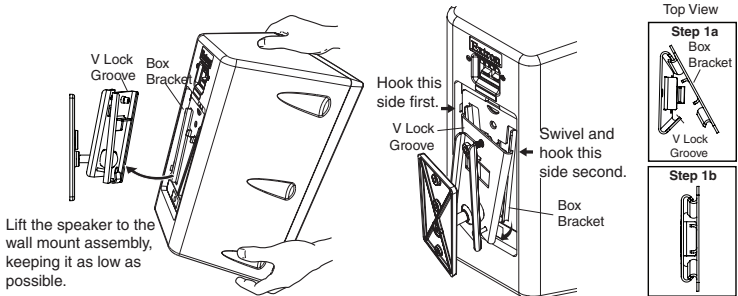

Figure 6 — Hook the speaker over the edges of the V-lock groove on the wall mount assembly
- 1a. Carefully lift the speaker up as close to the bottom of the wall mount assembly as possible and hook the right outer edge of the speaker box bracket over the right inner edge of the V-lock groove (see figure 6).